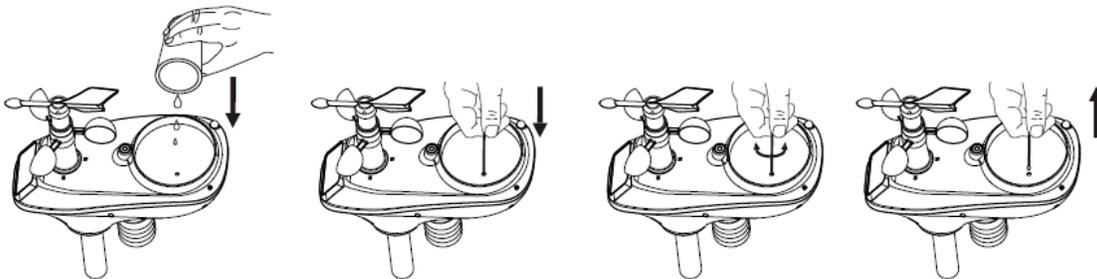

Figure 13
1. Clean the rain gauge once every 3 months as follows. Reference Figure 13.